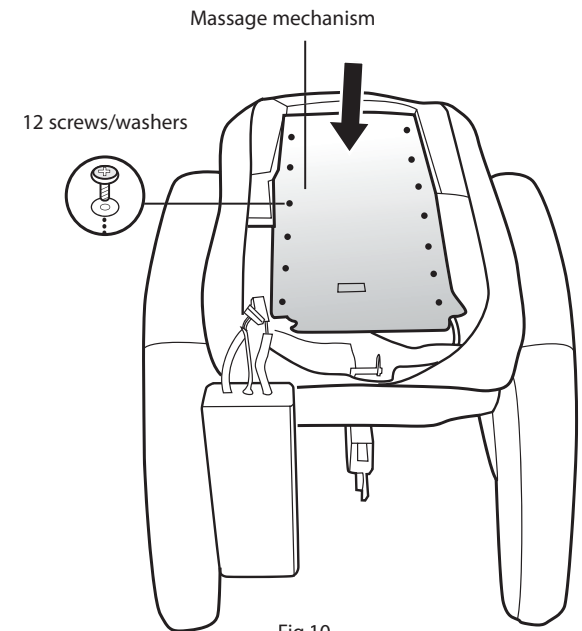

Fig.10
4. Turn the massage mechanism over so the flat side is facing upward, then place it gently into the backrest frame (Fig.10).